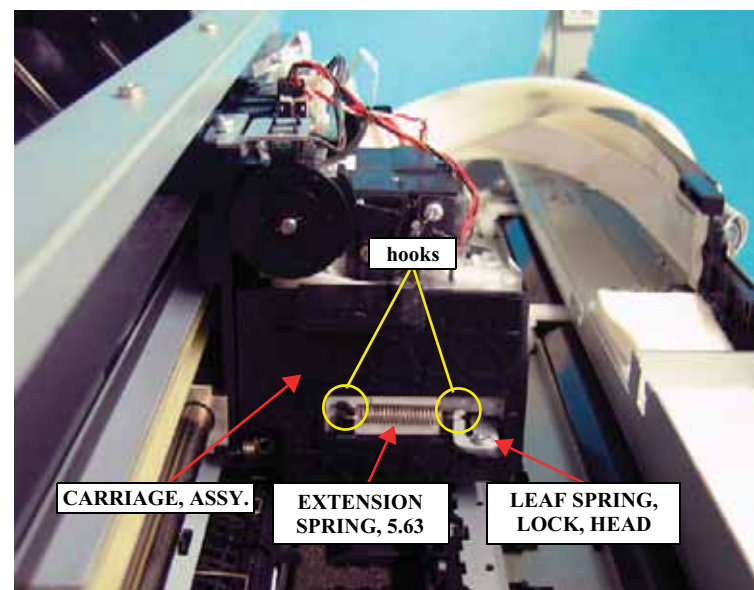

Figure 4-90. Removing the EXTENSION SPRING, 5.63
5. Remove the EXTENSION SPRING, 5.63 from each hooked tab on the CARRIAGE, ASSY. and the LEAF SPRING, LOCK, HEAD. See Figure 4-90.